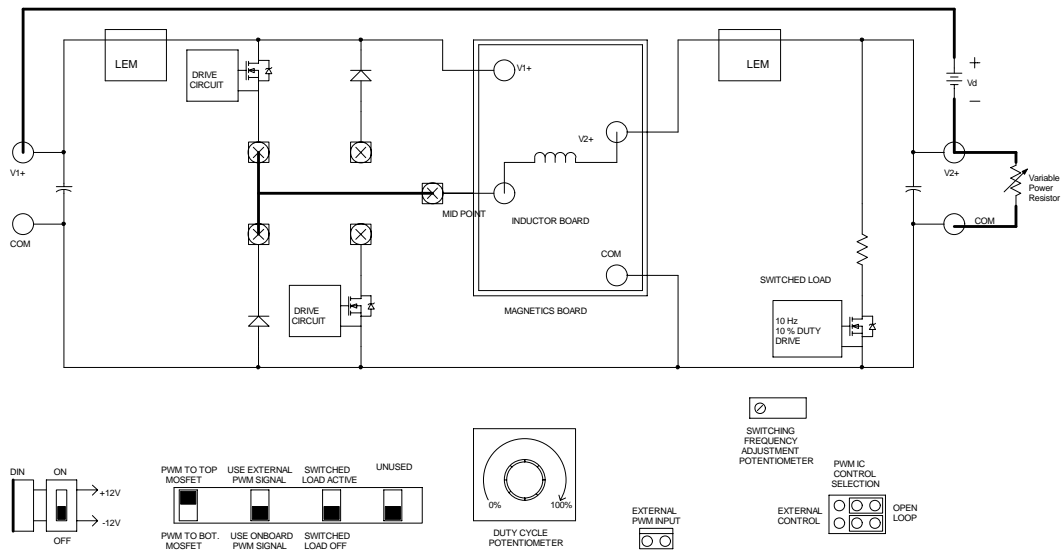

Figure 4.1: Schematic of Buck-Boost Converter
Make the connections for the power-pole board as shown in Fig. 4.1
- Check the circuit connections as shown in Fig. 4.1.
- Confirm that you have connected the input and output terminals correctly to source and load as shown in Fig. 4.1.